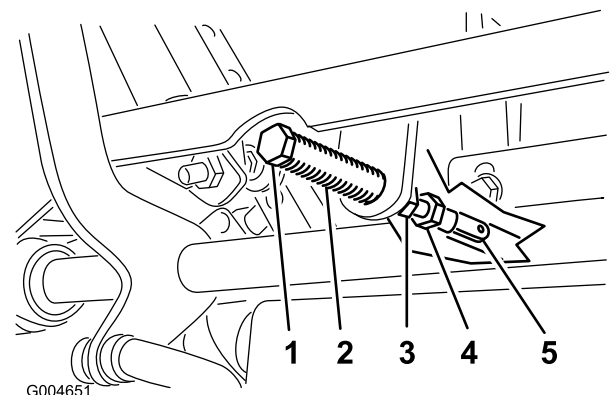

Figure 56
5. Pull the lever back until the clevis pin (on an arm above the pivot shaft) contacts the end of the slot (just beginning to put pressure on the spring) as shown in Figure 56.